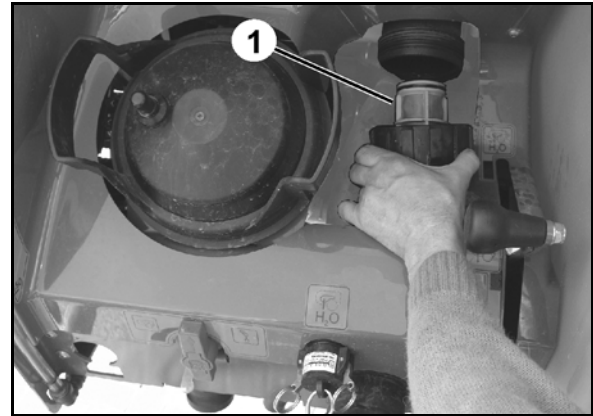

Fig. 149
2. Remove the pressure filter (Fig. 149/1) and clean with water.